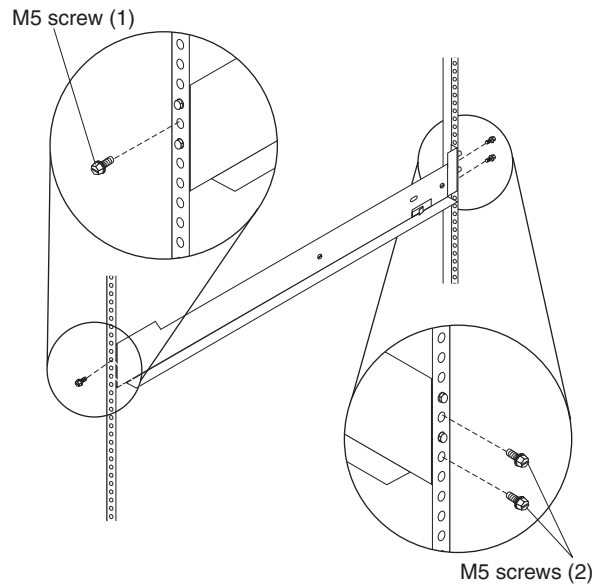

Figure 3. Securing the support rails in the rack
3. From the front of the rack cabinet, with the support-rail flanges positioned inside the rack cabinet support rail assemblies, tighten one M5 screw in the second hole from the top of the rail bracket with a screwdriver, as shown in Figure 3 on page 5.